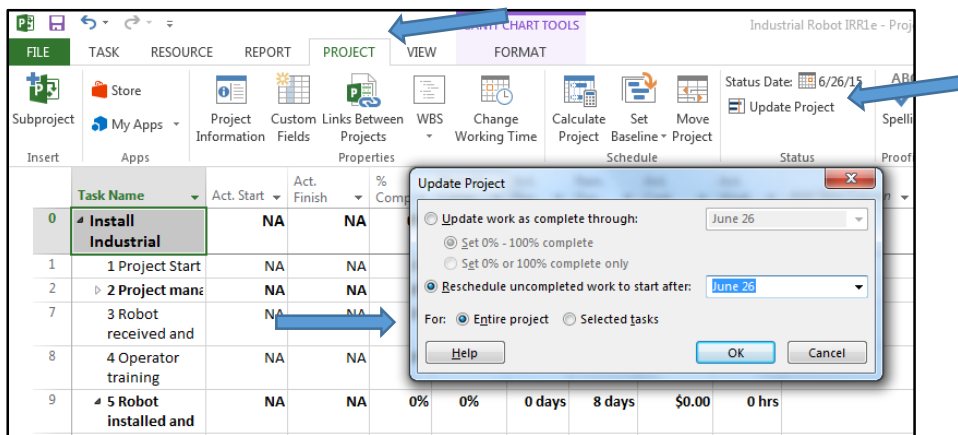

Figure 53
- Select Selected Tasks or Entire Project depending on what you want. If you select Entire Project, all incomplete work will be rescheduled (Figure 53).